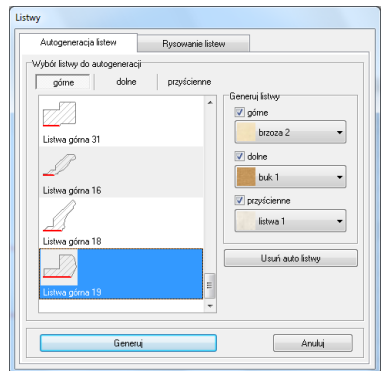

Fig. 231 – Cornices and skirting boards dialog box
- click  **Cornices and skirting boards** icon to open the **Cornices and skirting boards** dialog (Fig. 231);